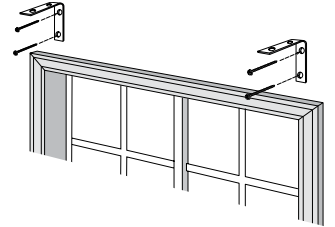

figure 1
2. Starting at one side of the window, position bracket so that the top of the bracket aligns with bottom of marks. Pre-drill pilot holes using 1/16" bit and install using #8 x 1 1/2" screws and appropriate fasteners, you may need a larger drill bit (figure 1).